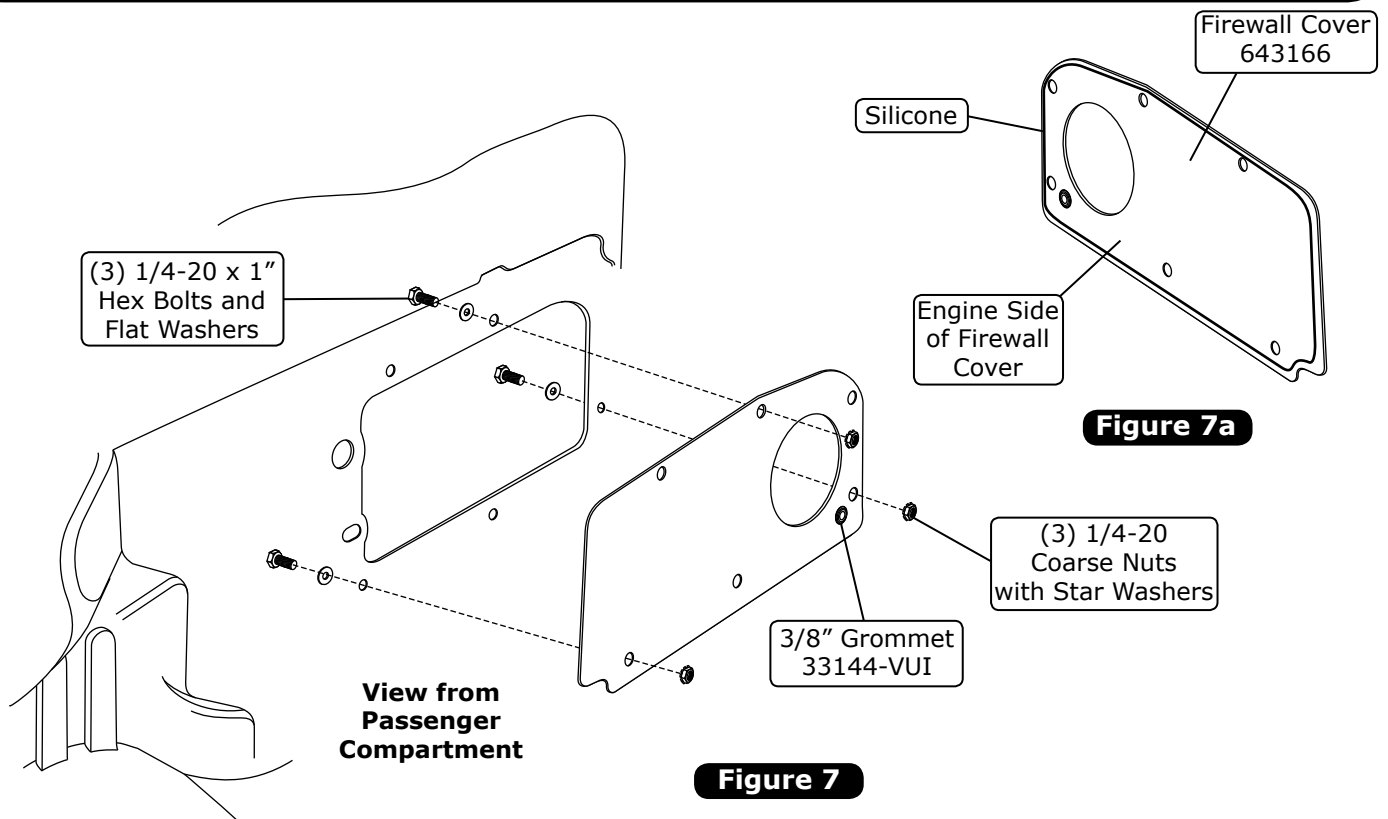

Figure 7a
2. Apply a 1/4" bead of silicone around the firewall cover as shown in Figure 7a, below.